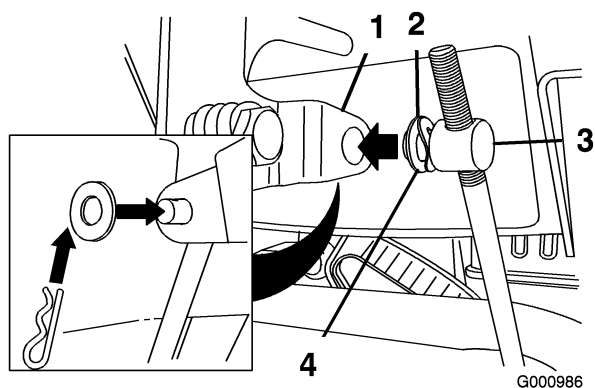

Figure 6
3. Remove the hairpin cotter and the outer washer from the trunnion on the upper end of the speed control rod (Figure 6).
Note: To make installation easier, leave the wave washer and the flat washer on the trunnion (Figure 6).
6. Lift up on the speed control rod and insert the trunnion into the hole in the speed selector lever (Figure 6).